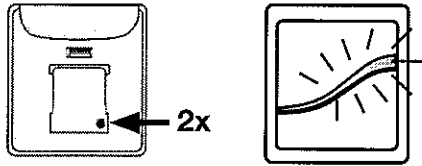

Fig. 1
- A. Starting with the primary control, press and release the program button on the back side of the current remote twice in rapid succession (two taps). The LED light will flash alternating amber and green to identify inclusion mode. (Fig. 1)